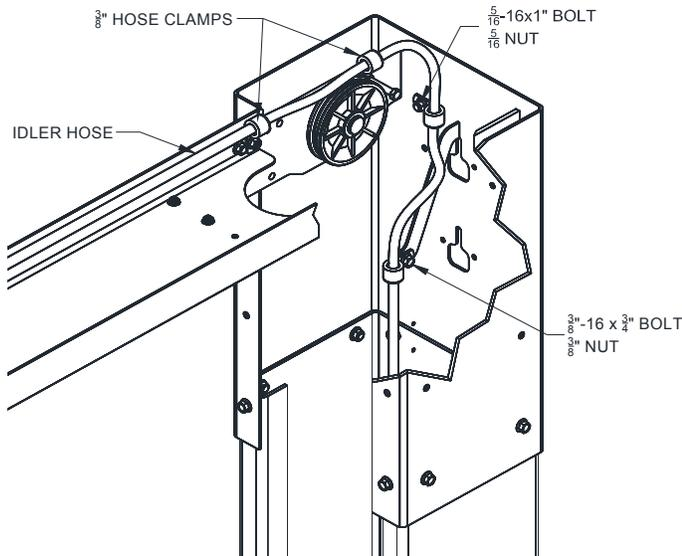
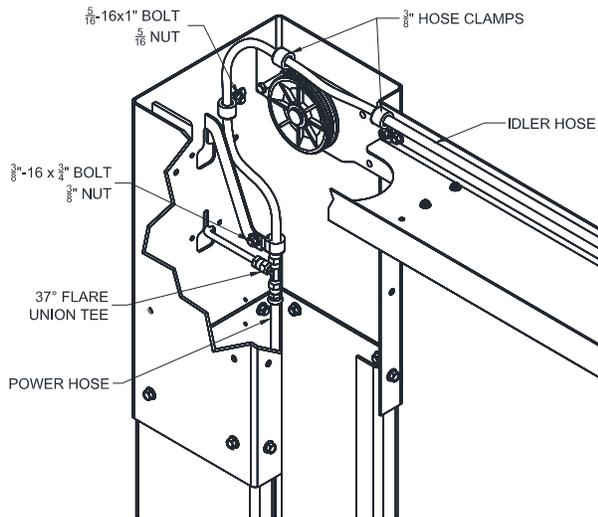
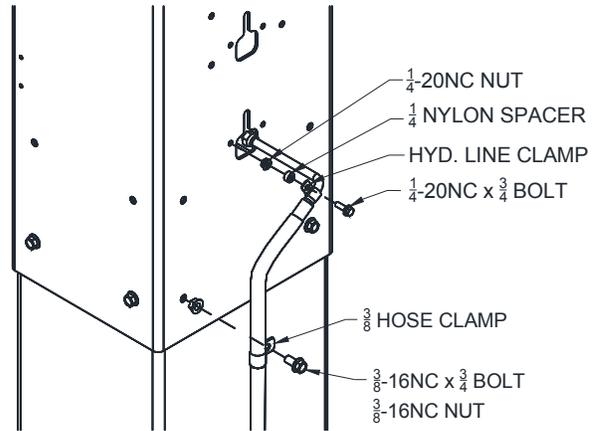

Fig. 11a – Hose Routing, Idler Side Column Ext.
Fig. 11b – Hose Routing, Power Side Column Ext.
Fig. 12 – Power Unit Hose
- 26) Uncoil Idler side hose and route through the Idler Side column extension as shown in **Fig. 11a**, taking care to avoid the synchronizing cables and hydraulic cylinder path. Remove slack and tighten all 3 clamps. Route hose across overhead avoiding the synchronizing cables and down through the Power Side column extension as seen in **Fig. 11b**. Do Not Tighten Clamps at this time.
27) Loosely attach power column hose and idler column hose using the tee fitting (*in hardware box*) Attach Power Unit Hose to power side column extension as seen in **Fig. 12**. Connect Power unit hose to tee from **Fig. 11b** and remove slack from power column hose. Tighten loose fittings and clamps from previous step. Serpentine any extra hose length in overhead.